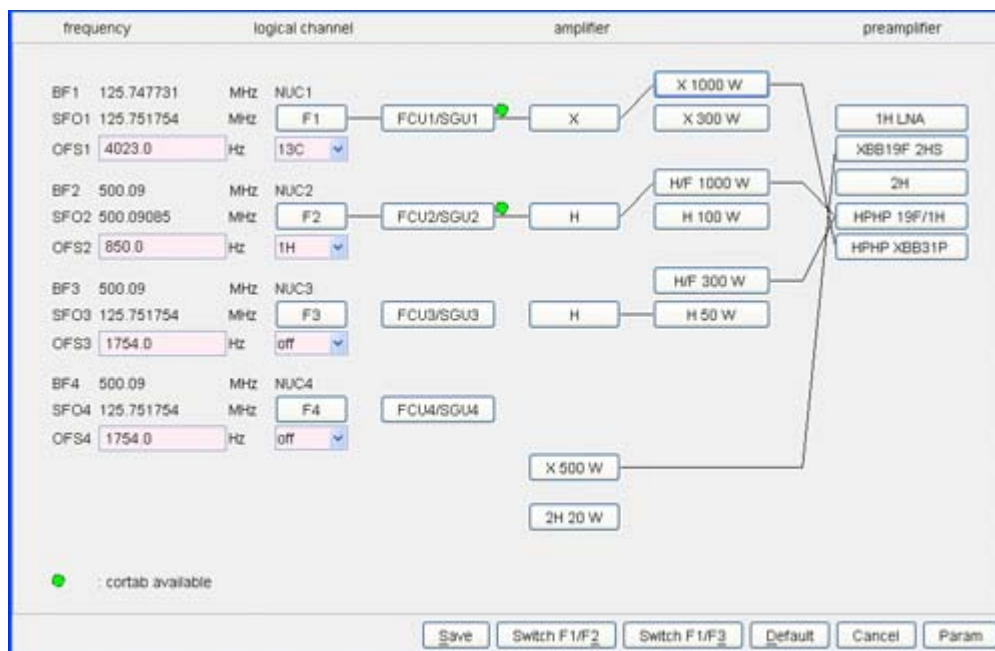

Figure 2.17 Routing for double resonance experiment using high power amplifiers.
3. Check for correct routing on the 1 kW amplifiers. If the routing is incorrect, click the **default** button in the routing window (see Figure 2.17).